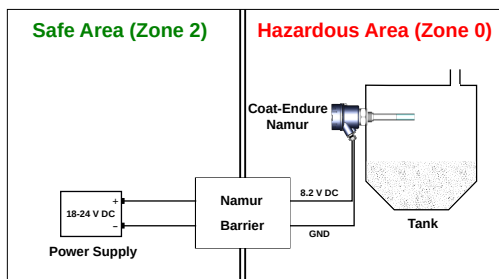

Figure 39: Calibration at safe zone
- Before Installing the device, ensure that the calibration process has been already carried out in safe area (Zone 2) then install the instrument in hazardous area as shown in Figure 39.